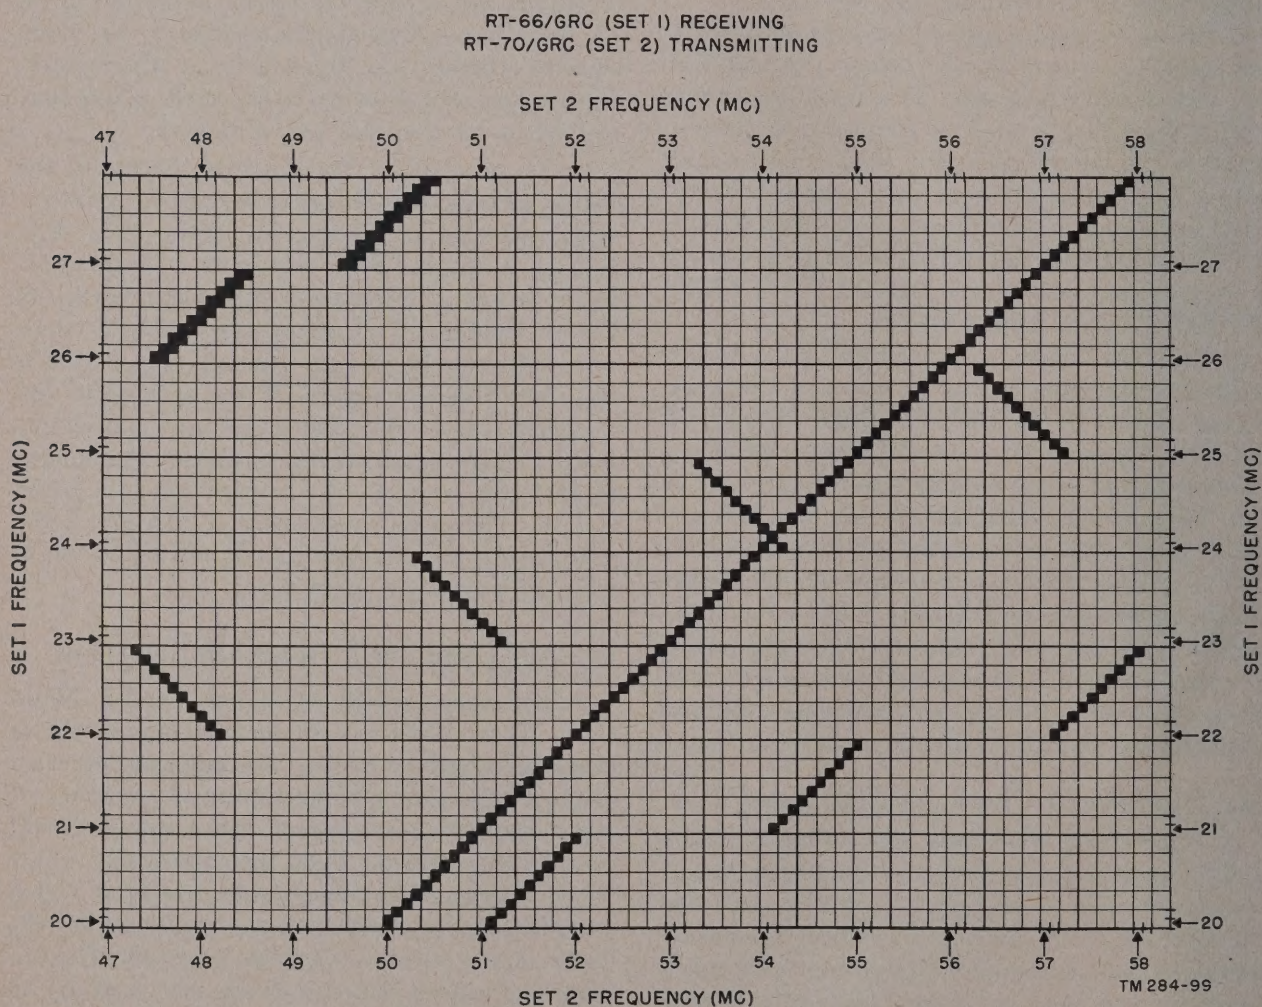
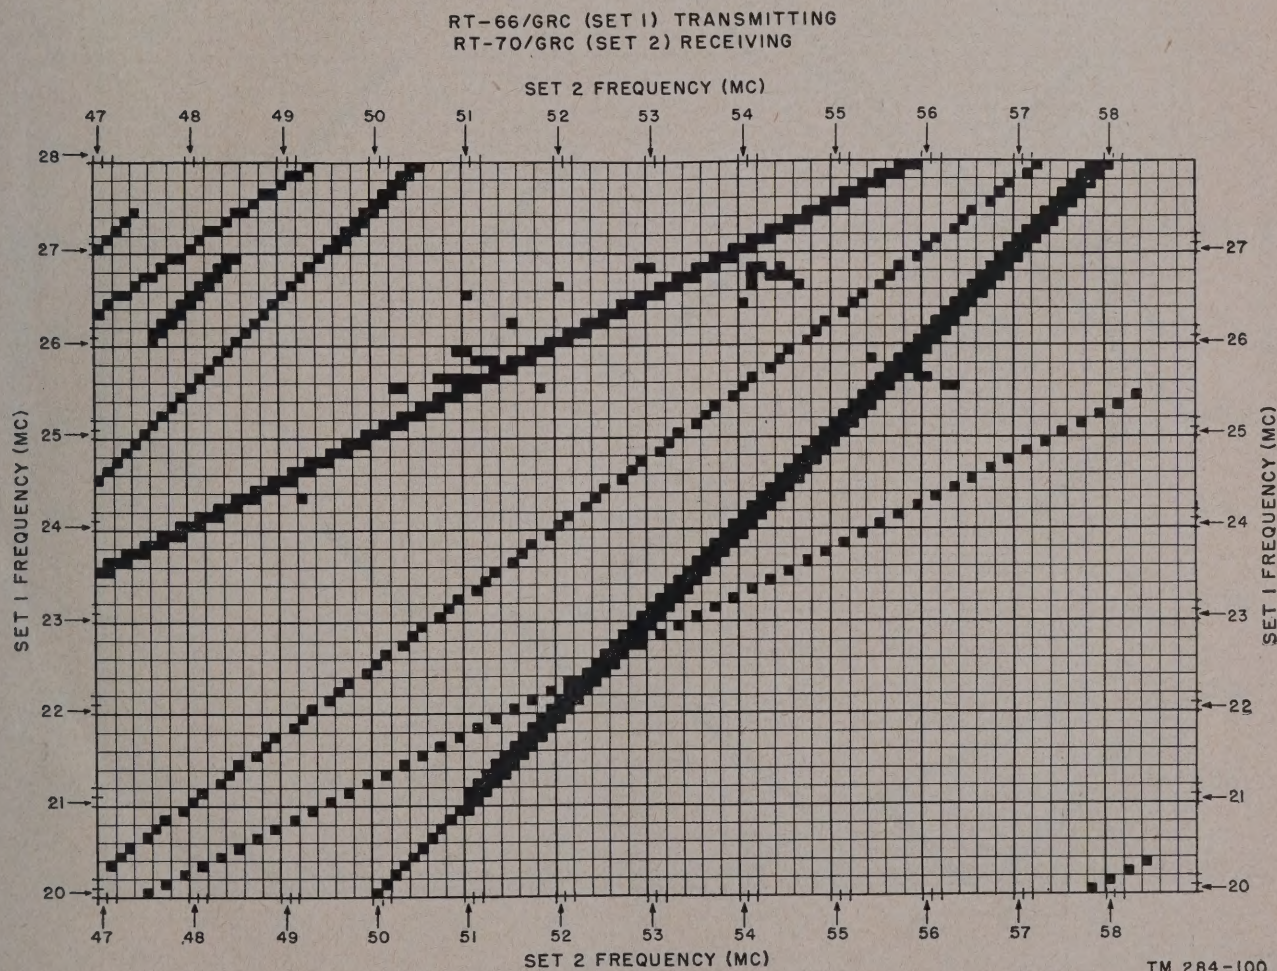
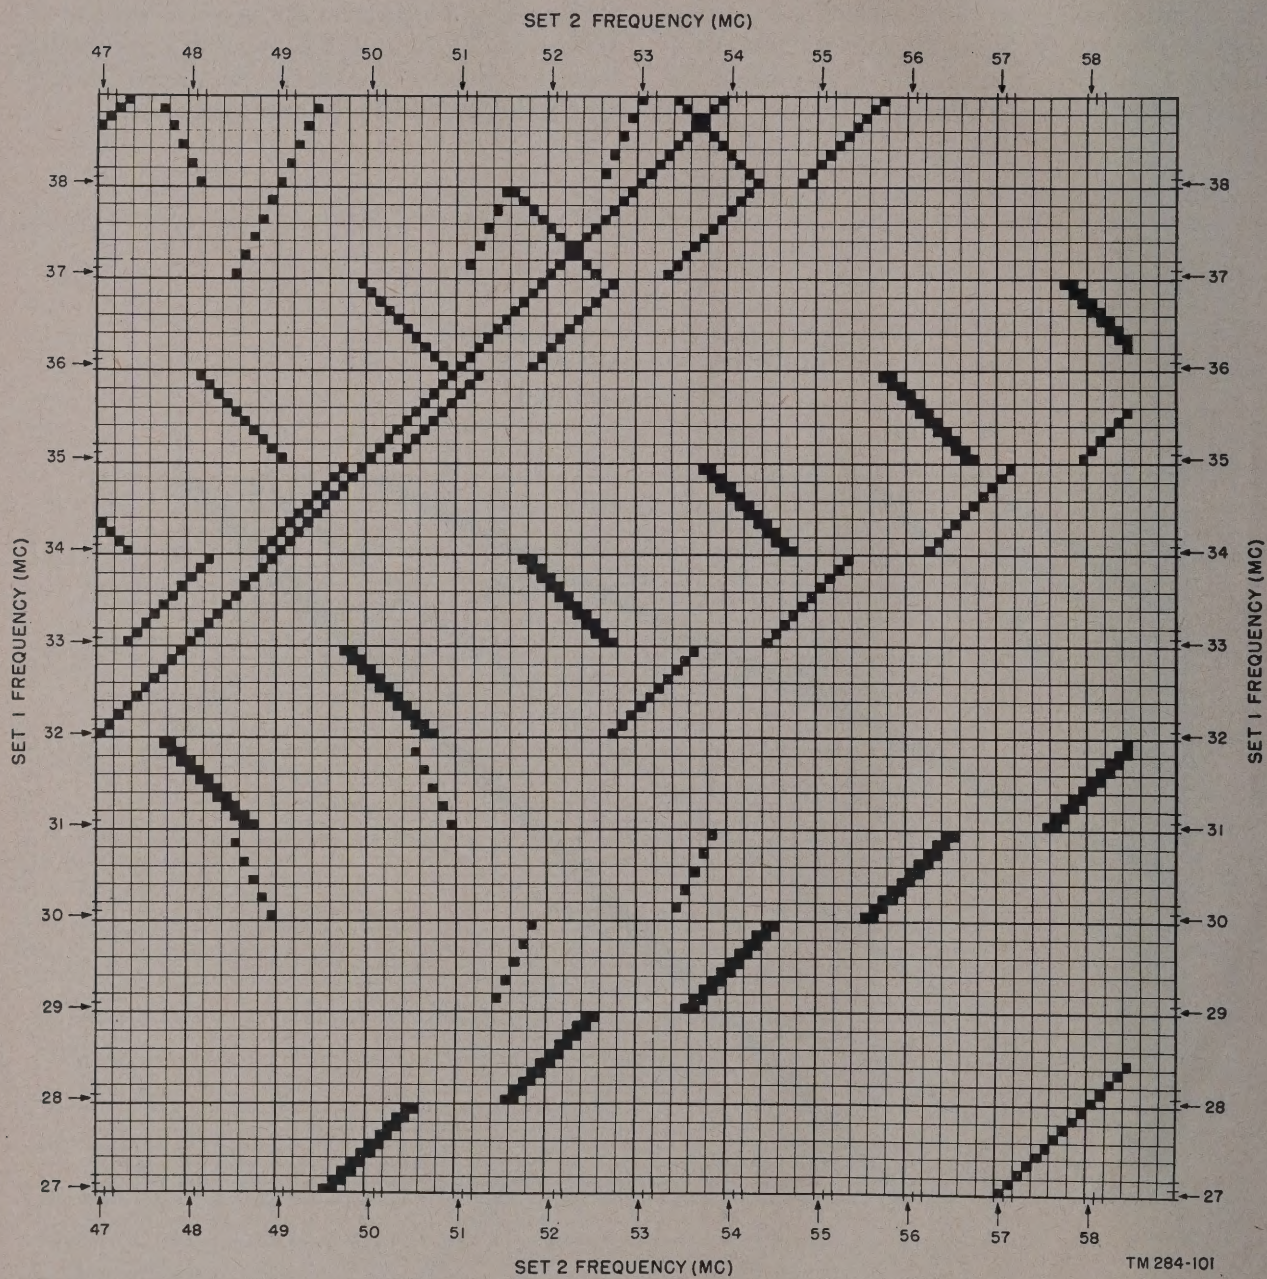

Figure 50. Chart showing interference between receiver of Receiver-Transmitter RT-66/GRC and transmitter of Receiver-Transmitter RT-70/GRC.
Figure 51. Chart showing interference between transmitter of Receiver-Transmitter RT-66/GRC and receiver of Receiver-Transmitter RT-70/GRC.
Figure 52. Chart showing interference between receiver of Receiver-Transmitter RT-67/GRC and transmitter of Receiver-Transmitter RT-70/GRC.
a. *Interference Problems.* The tuning of Sets 1 and 2 involves not only the simple mechanics of tuning control settings (pars. 61 and 62), but also the problem of frequency selection. Frequency selections must be made to avoid interference between the two receiver-transmitters. Interference charts (figs. 50 through 55) have been prepared to indicate those frequencies at which interfer-
ence-free operation can be expected with Set 1 transmitting and Set 2 receiving or vice versa. Figures 50 and 51 pertain to Radio Sets AN/GRC-3 and -4 which utilize Receiver-Transmitter RT-66/GRC as Set 1; figures 52 and 53 pertain to Radio Sets AN/GRC-5 and -6 which utilize Receiver-Transmitter RT-67/GRC as Set 1; and figures 54 and 55 pertain to Radio Sets AN/GRC-7 and -8 which utilize Receiver-Transmitter RT-68/GRC as Set 1.
b. *Nature of Charts.* Each square on the interference charts represents the intersection of two frequencies, one plotted from left to right for Set 2, the other plotted from bottom to top for Set 1. On figure 50, for example, Set 2 transmitting frequencies are plotted from left to right across the chart and Set 1 receiving frequencies are plotted from bottom to top of the chart. The *filled-in squares* represent those frequencies at which *interference can be expected* for the particular mode of operation indicated on the chart; the blank squares represent the frequencies at which interference-free operation can be expected. (Note that the spaces, not the lines, are calibrated.)
AN/GRC-5 and -6	Fig. 52
AN/GRC-5 and -6	Figs. 52 and 53
alternately as a receiver and as a transmitter. It is necessary, therefore, that the possibility of interference be checked for both conditions of operation. For example, when Radio Sets AN/GRC-3 or -4 are being used for retransmission operation, the frequencies of operation for the Set 2 transmitting and Set 1 receiving condition must be checked on figure 50, and for the Set 2 receiving and Set 1 transmitting condition on figure 51.